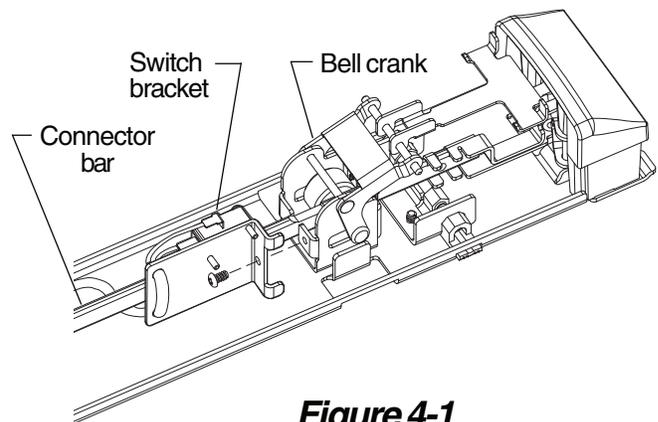

Figure 4-1
- 4** Screw RX switch bracket onto device as shown (Figure 4-1).